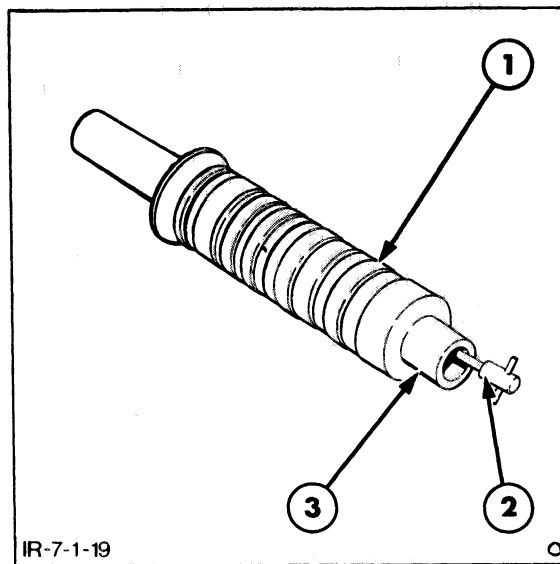

FIGURE 7-19
- 19. Invert the spool assembly and allow the torsion bar and spacer to fall free, Figure 7-19. Do not remove the pin from the end of the torsion bar.